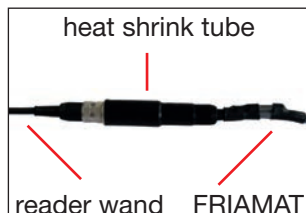

Fig. 4
- Remove carefully the heat shrink tube (Fig. 4) from the reader wand adapter (grey) and both connectors (reader wand cable and FRIAMAT data cable).